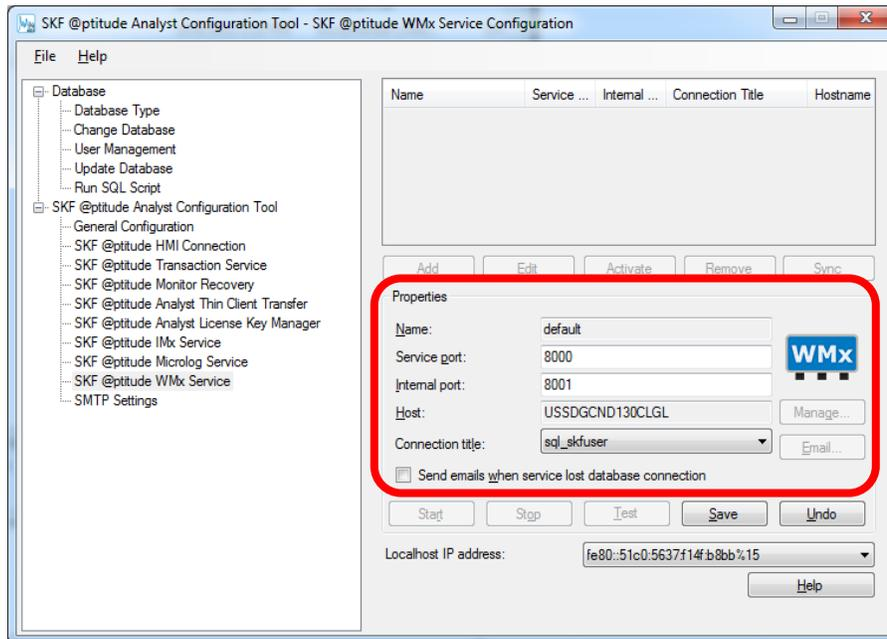

Figure 6. Creating a new service
8. The new service details will appear in the **Properties** section. [Figure 6]